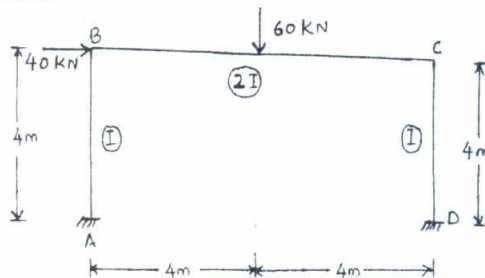

Fig.Q4
- 4 Analyze the portal frame shown in Fig.Q4 by slope-deflection method. Draw bending moment diagram. (20 Marks)